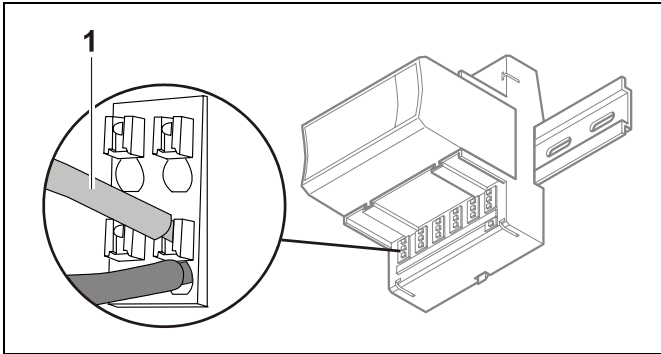

Fig. 44. Testing wiring connections
- ▶ Insert a probe (1) as shown in Fig. 44.